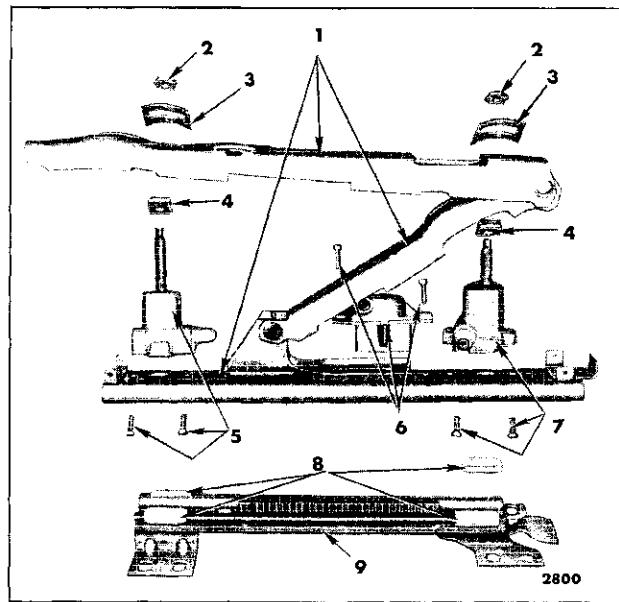

Fig. 15-15—Six-Way Seat Adjuster Components —
5. At top of adjuster, remove both vertical gearnut attaching nuts and tension springs (Fig. 15-15).
6. Lay adjuster on its side and remove front vertical gearnut attaching screws (Fig. 15-15); then, remove gearnut from adjuster.
6. Lay adjuster on its side and remove rear vertical gearnut attaching screws; then, remove gearnut from adjuster (Fig. 15-15).